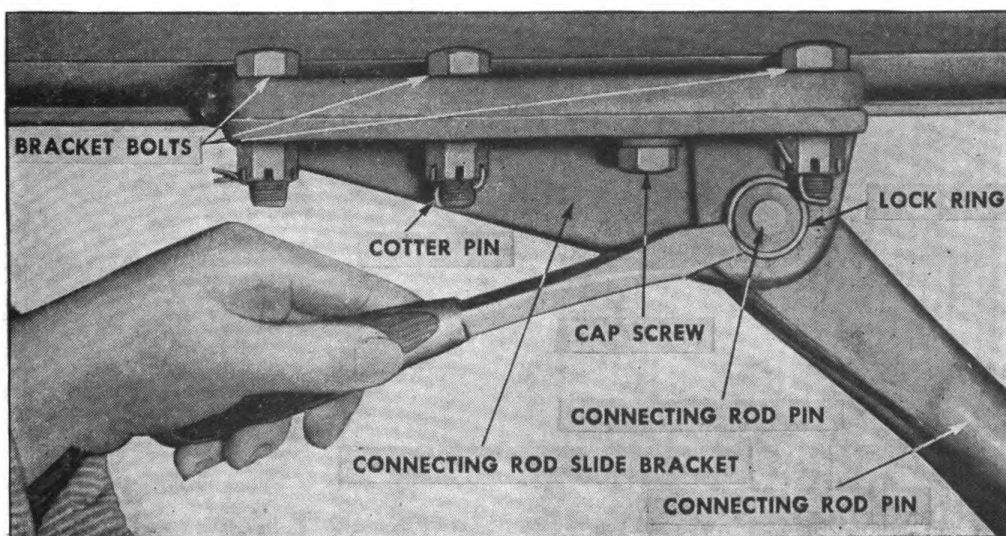
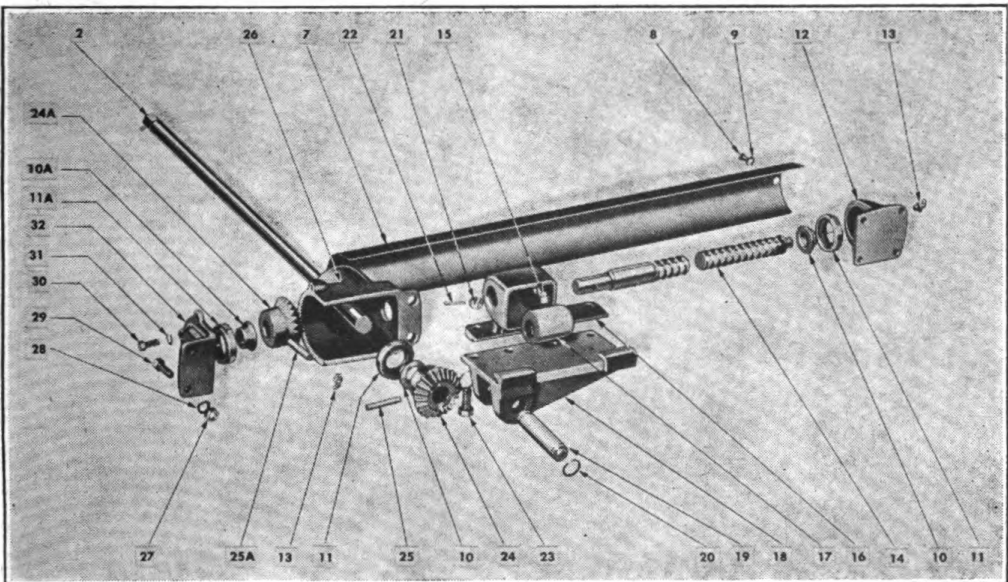
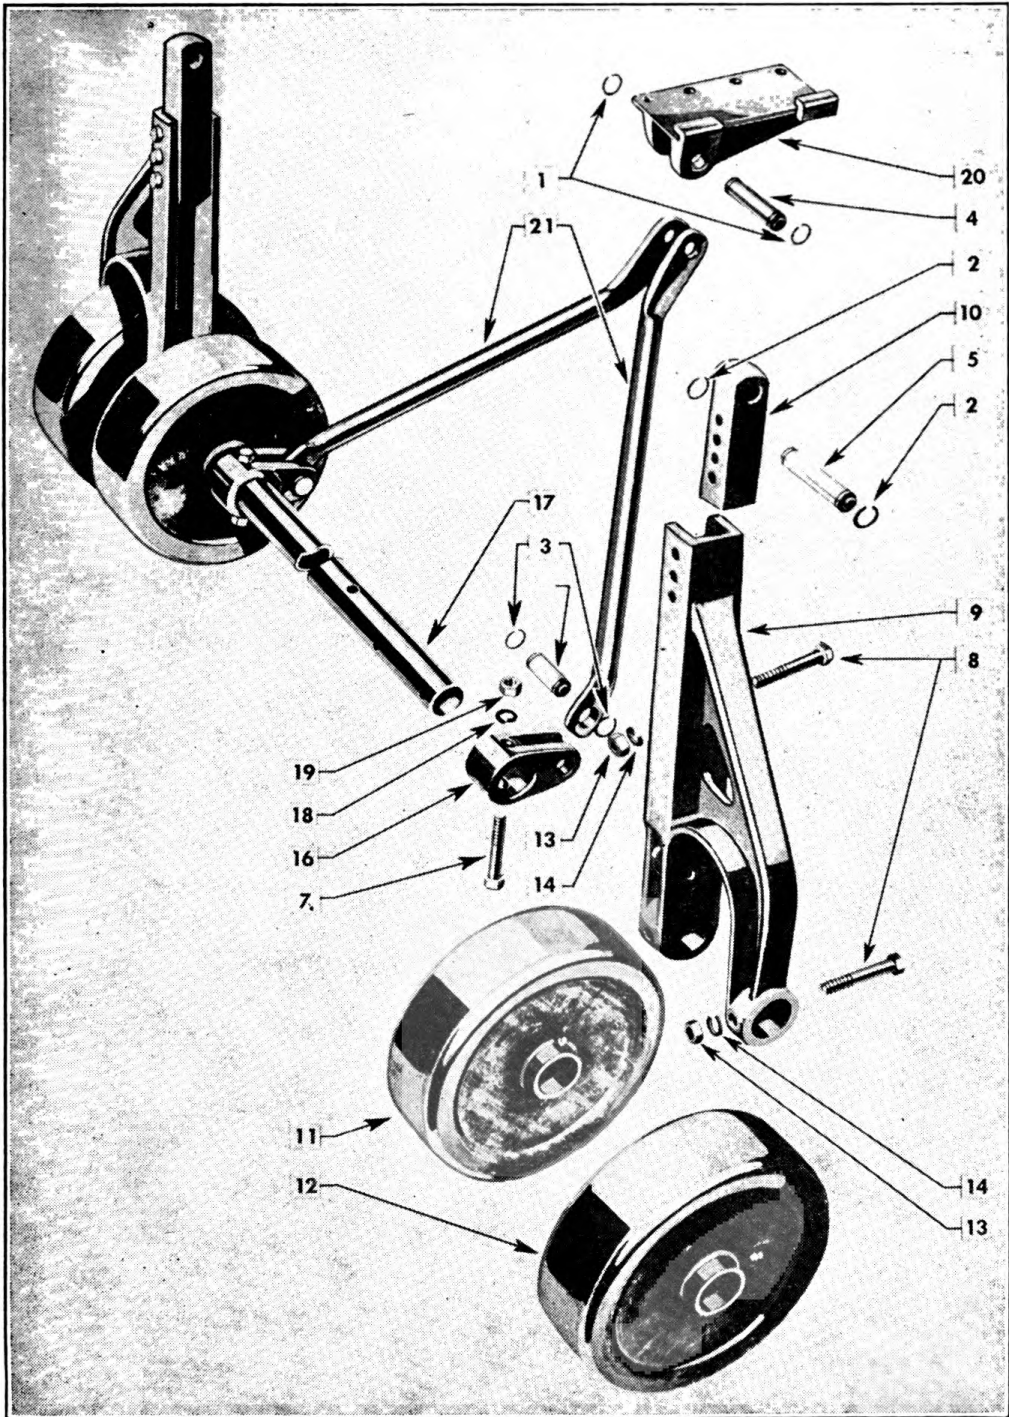

FIGURE 74. REMOVING CONNECTING ROD PIN.
FIGURE 78. SUPPORT OPERATING MECHANISM—EXPLODED.
FIGURE 79. SUPPORT WHEEL ASSEMBLY.
2. REMOVAL OF OPERATING ASSEMBLY ATTACHED TO I-BEAM.—*a.* Wind supports down until stop is reached. Place screwdriver into slot of lock ring; open lock ring and pry it off connecting rod pin (Fig. 74), and drive pin out.
3. REPLACEMENT OF OPERATING ASSEMBLY ATTACHED TO I-BEAM (Fig. 78).—*a.* Fill gear housing with a light grade of chassis lubricant.
b. Install bearing (11) and bearing sleeve (10) into rear bearing cap (12) (Fig. 78). Place a small daub of chassis lubricant into bearing.
4. DISASSEMBLY OF OPERATING ASSEMBLY (Fig. 78).—*a.* Remove assembly as outlined in paragraph 2, this section.
b. Remove three cap screws (30), lift cap (32) off of gear housing (26).
c. Turn nut housing (16) off screw (14).
d. Pull screw (14) with gear (24A) attached, out of gear housing (26).
e. Place screw (14) across wood block and drive pin (25A) out of gear (24A) using a long tapered $\frac{5}{16}$ " punch.
f. Pull operating shaft (2) with gear (24) attached, out of housing (26).
g. Place operating shaft across wood block and with the aid of a $\frac{5}{16}$ " long tapered punch, drive pin (25) out of gear (24) and tap gear off shaft.
5. REASSEMBLY OF OPERATING ASSEMBLY (Fig. 78).—a. Place gear (24) over shaft (2) with gear teeth to outside (Fig. 78). Drive drive pin (25) through hole in gear and shaft.
b. Place bearing sleeve (10) over end of operating shaft (2) with flange toward gear. Place bearing (11) over operating shaft (2) with concave surface over convex surface of bearing sleeve. Place shaft assembly through gear housing (26).
c. NOTE: Gears (24) and (24A) are interchangeable; bearings (11) and (11A) are interchangeable; drive pins (25) and (25A) are interchangeable; bearing sleeve (10) and (10A) are interchangeable.
d. Place gear (24A) over riser screw (14) with teeth facing thread on riser screw; fasten gear to riser screw, using drive pin (25A).
e. Place riser screw through hole in gear housing (26) so that teeth on both gears jibe.
f. Place bearing (11A) into bearing cap (32) with concave surface out and install sleeve (10A) into bearing with flat surface out.
g. Place bearing cap over end of riser screw and fasten cap, using three cap screws (30).
6. DISASSEMBLY OF WHEEL AND AXLE ASSEMBLY (Fig. 79).—a. Disconnect connecting rods (19) and slide bracket (20). (See illustration Fig. 74.)
b. Remove lock ring (2) from outer side of pin (5) and drive out the pins.
c. Remove bolts (8) from strut (9) and with a heavy hammer drive strut and wheels off axle.
d. Remove lock ring (3) from pin (6); remove bolt (7) and tap connecting rod link (16) off axle.
e. NOTE: All parts, as illustrated in Fig. 79 are interchangeable from right to left and vice versa.
f. CAUTION: Make final inspection, prior to placing this unit in operation after supports have been worked upon, to make certain all bolts are in their proper place, and tighten down. Check to make certain lock rings have been placed on all hinge pins, see Fig. 79 for position of all hinge pins and lock rings.